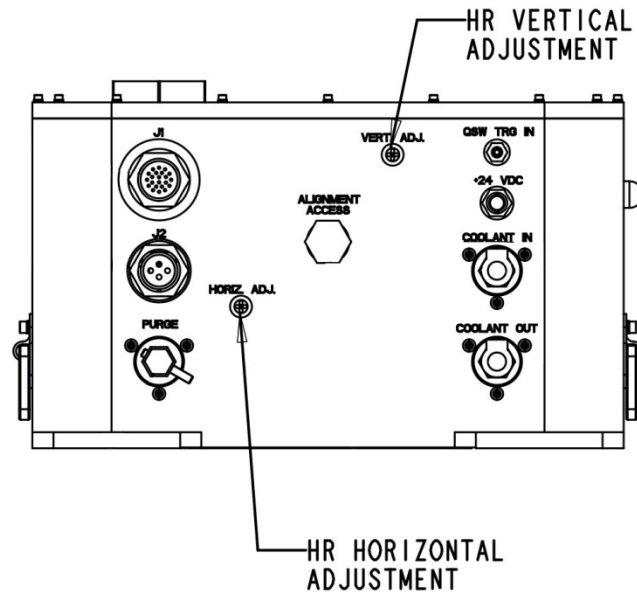

Figure 5-5 HR Mirror Adjustment
Remove the desiccant cartridge from the top cover of the laser housing. Use the refill tool to remove the retainer ring, and exchange the desiccant. The refill package contains 50 grams of desiccant. Fill the cartridge to the counter-bore surface where the filter is mounted. Do not overfill. Fill as shown in Figure 5-5.
- b. Locate the access holes for high-reflection (HR). Notice the positions of horizontal and vertical adjustment access holes for the HR mirror as shown in Figure 5-5.